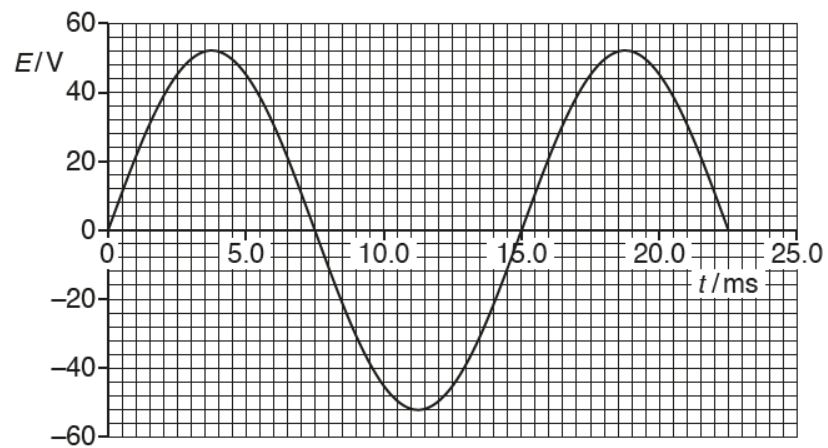

Fig. 6.2
- (b) An alternating voltage of peak value 150 V is applied across the 1200 turns of the primary coil. The variation with time t of the e.m.f. E induced across the secondary coil is shown in Fig. 6.2.
Use the data from Fig. 6.2 to
- (c) A resistor is connected between the output terminals of the secondary coil. The mean power dissipated in the resistor is 1.2 W. It may be assumed that the varying voltage across the resistor is equal to the varying e.m.f. E shown in Fig. 6.2.